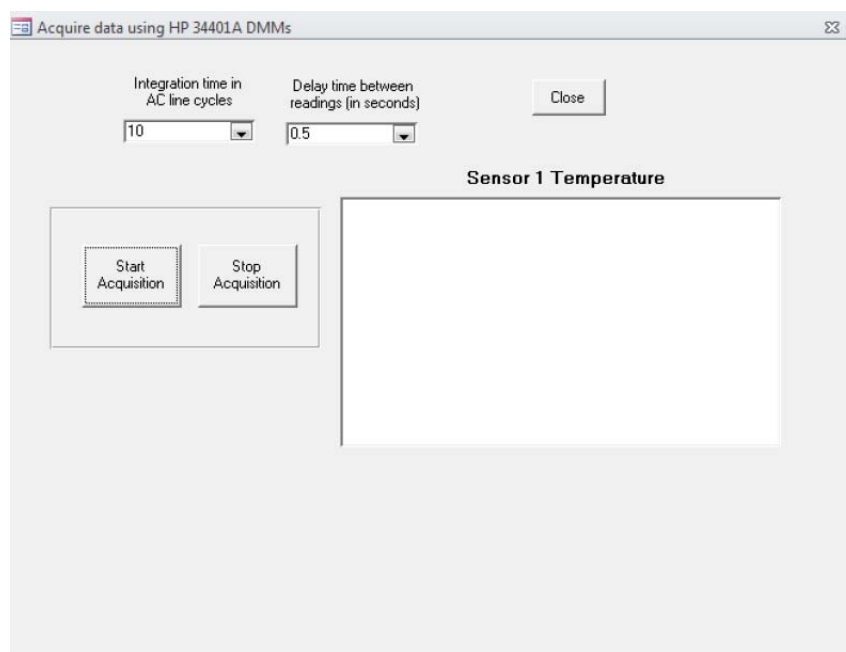

Figure 5-70. Panel for using HP 34401A DMMs
2. The panel could look as shown in Figure 5-70.